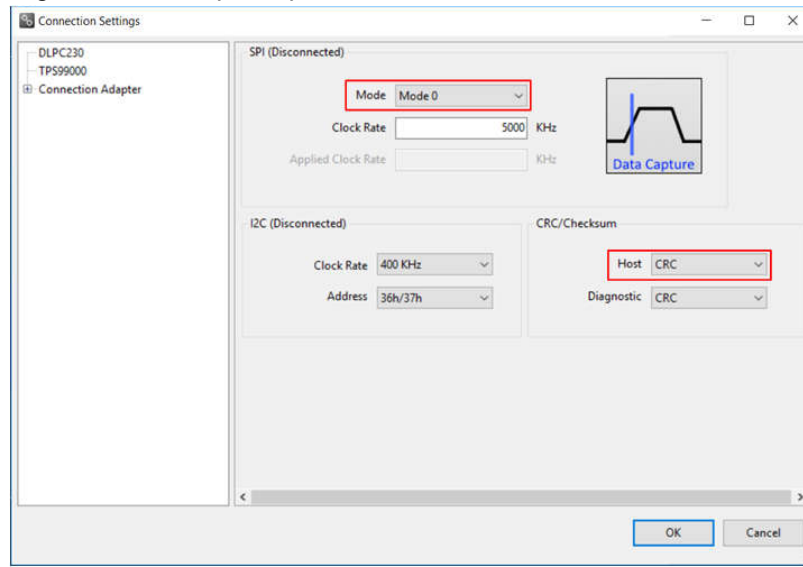

Figure 2-7. DLPC230-Q1 Automotive Control Program Communication Settings
3. Select *Connection Settings* to confirm the SPI configuration shown in Figure 2-7 matches the controller PCB switch settings described in Table 1-3. Specifically, SPI mode and CRC/Checksum can vary based on switch settings. When configuration is complete, press *OK*.